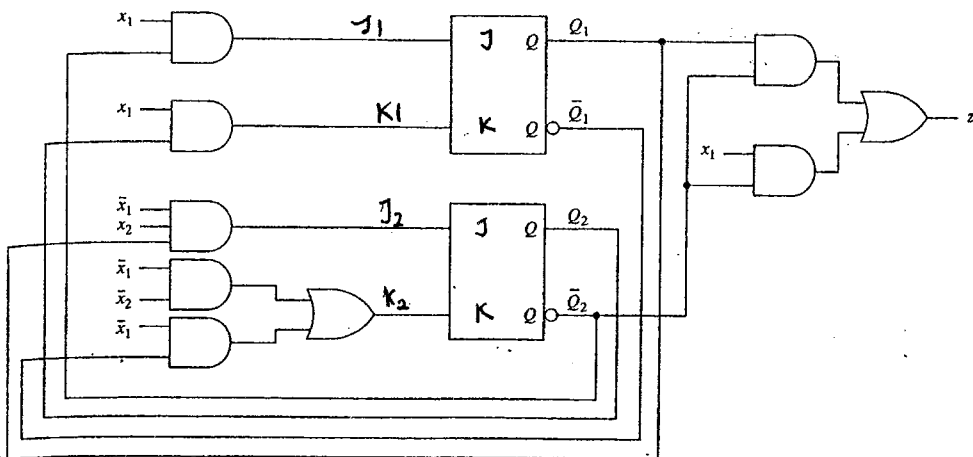

Figure 13
- (c) For the asynchronous sequential network in Figure 13 construct the excitation table, transition table, state table, flow table and flow diagram.